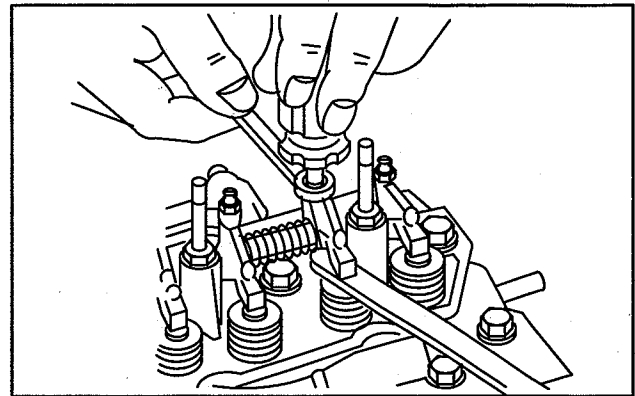

Fig. 40 – Adjust Valve Clearances
a. Adjust valves and check, Fig. 40.